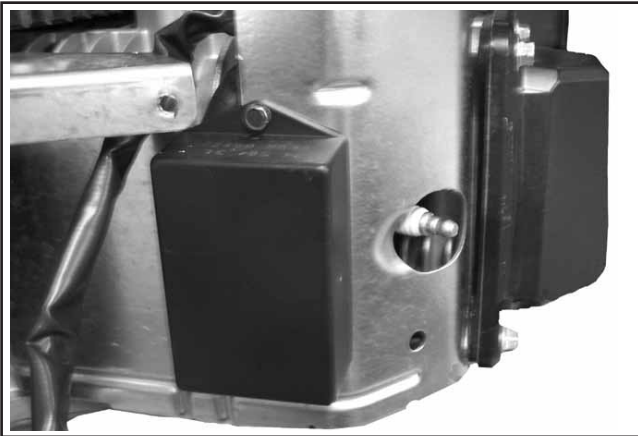

Figure 10-65. SAM Mounting.
3. Install the spark advance module (DSAM) if equipped, onto the outer cylinder baffle. See Figure 10-65.